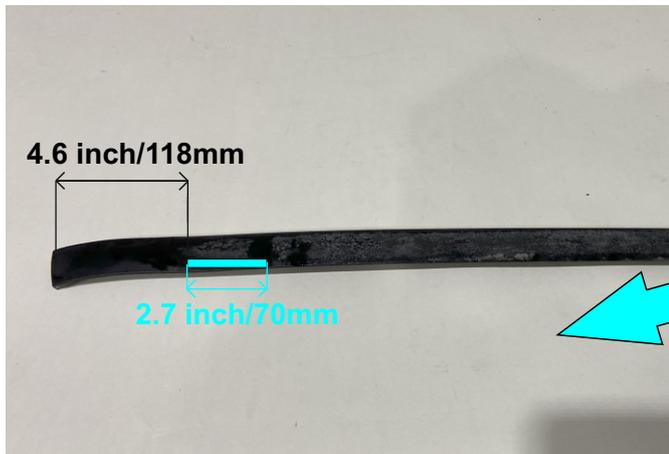
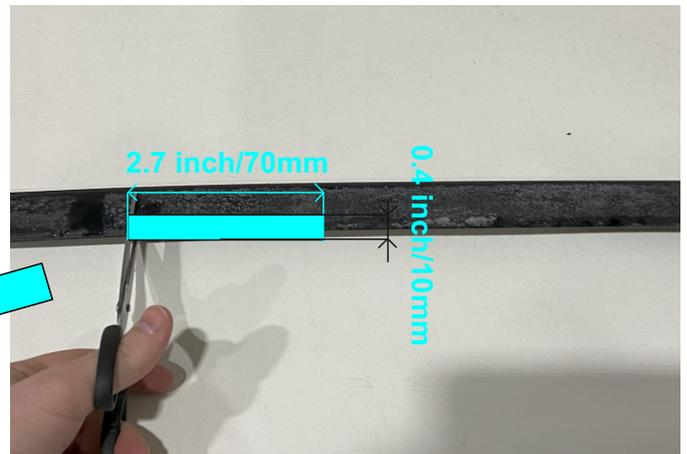

Fig. 8
Fig. 9
7. Mark the position of the front foot in the ditch as shown in fig. 8. After that, remove gutter seal from the roof rack. Trim the gutter seal and remove the small part (70x10 mm) as shown in fig.9.